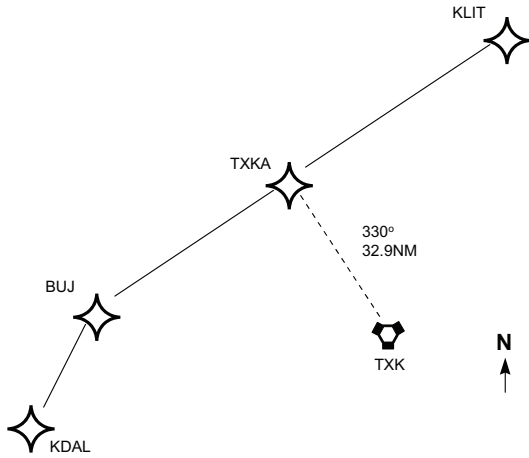

Figure 3D-103. Pilot Designated Point
1. Select the reference waypoint page (REF) on the right side. Refer to Figure 3D-104. If a flight plan page is not displayed on the left side, the REF page displays, DISPLAY DESIRED – FPL ON – LEFT PAGE.